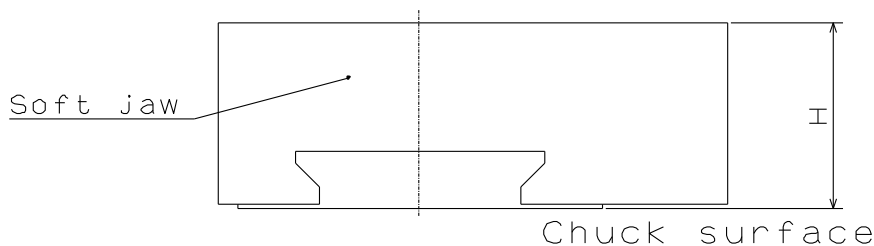

Fig.10
- The total height (Fig.10) of the soft jaw is regulated by the jaw over-turn moment. Consequently, use the standard soft jaw or high soft jaw (semi-standard). When using the soft jaw higher than the high soft jaw, the jaw may be broken, thus resulting in a danger of scattering the jaw or work-piece.